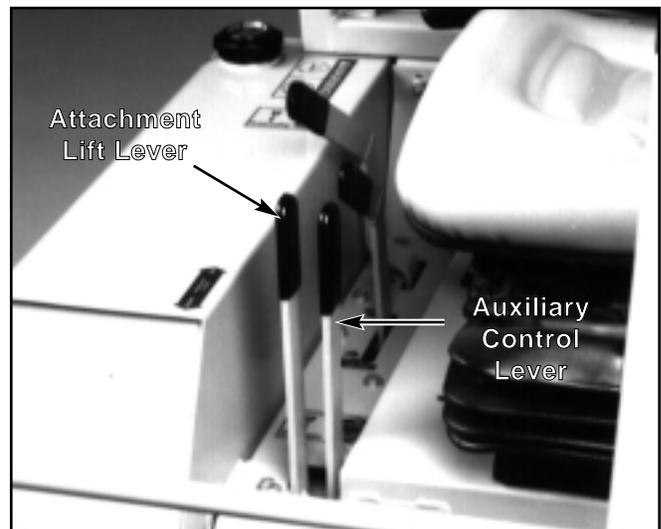

Figure 3-6
9. **Attachment lift lever (Fig. 3-6)** – This lever controls the hydraulic raising and lowering of tractor tool bars and front end attachments. Pull lever back to raise the bars and push it forward to lower them.
10. **Auxiliary control lever (Fig. 3-6)** – this lever is for control of the hydraulic cylinder mounted on some optional attachments. Use of lever varies with each